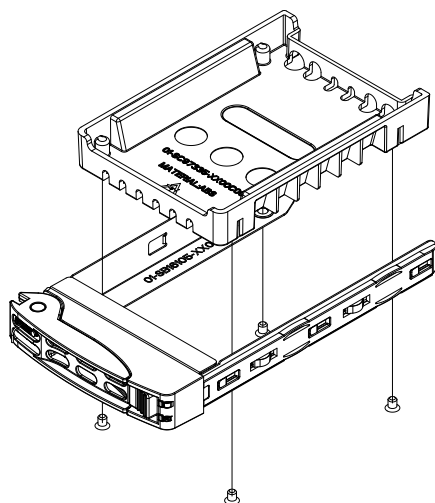

Figure 3-6. Removing a Dummy Drive from the Drive Carrier
3. Remove the dummy drive from the carrier (Figure 3-6).